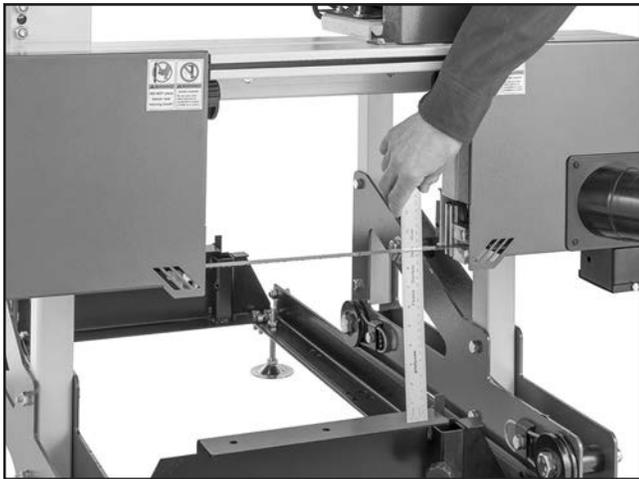

Figure 54. Measuring distance between blade and log bunk (right side shown).
66. Measure distance between back of blade and top of log bunk near each blade guide (see **Figure 54**).